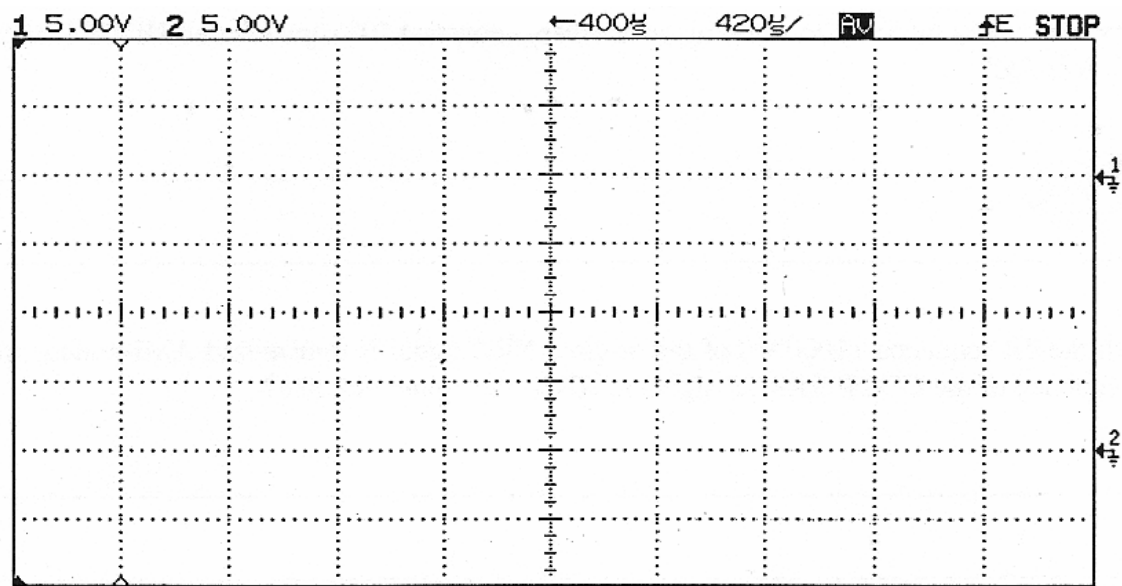

Figure 7-2w: above : Decoder input signal (HDB3/ NRZ)
- The four "0" bits in the input signal (Figure 7-2w) are represented in the HDB3 code by the substitute group "100V". Here the "1" is coded according to the AMI rules, i.e. with reversed polarity with respect to the last transmitted "1". In contrast, in the case of
- Beginning with bit switch the bits 8 to 5 to "0" Observe as of how many "0" bits in sequence the CODE ERROR signal no longer continuously deviates . from "0" level Make a sketch of the oscillograph for bit pattern 00001111 in Figure 7-2w.